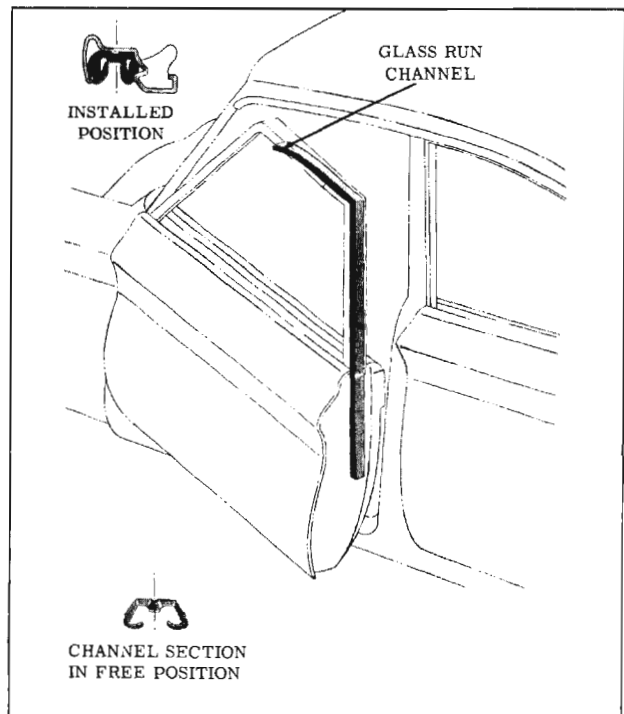

Fig. 16-255 Front Door Glass Run Channel (Except 47 and 67 Styles)
3. Press (finger pressure) sides of run channel together and remove assembly from door upper frame. (Fig. 16-255)